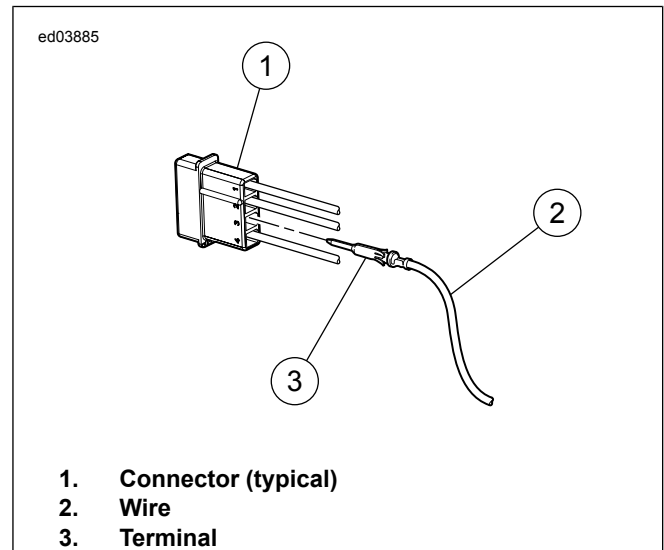

Figure B-46. Installing Terminal
1. See Figure B-46. Align the contact with back of contact cavity in the housing, and insert the contact into housing until it is fully seated.